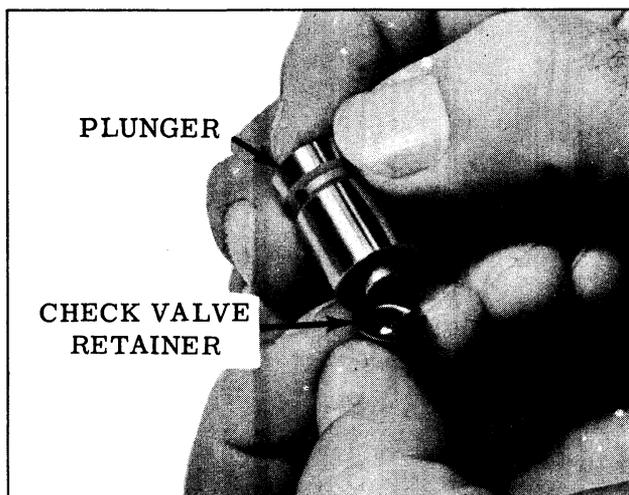

Fig. 8-16 Assembling Retainer and Plunger
3. Hold check valve retainer as shown in Fig. 8-16, then lower plunger over ball so that it is seated properly.